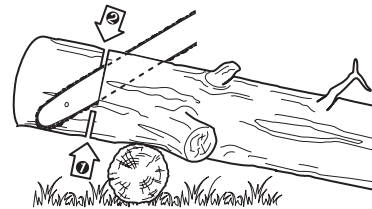

Fig.34
2. When the log is supported on one end (Fig. 34), cut 1/3 the diameter from the underside (underbuck). Then make the finished cut by overbuckling to meet the first cut.